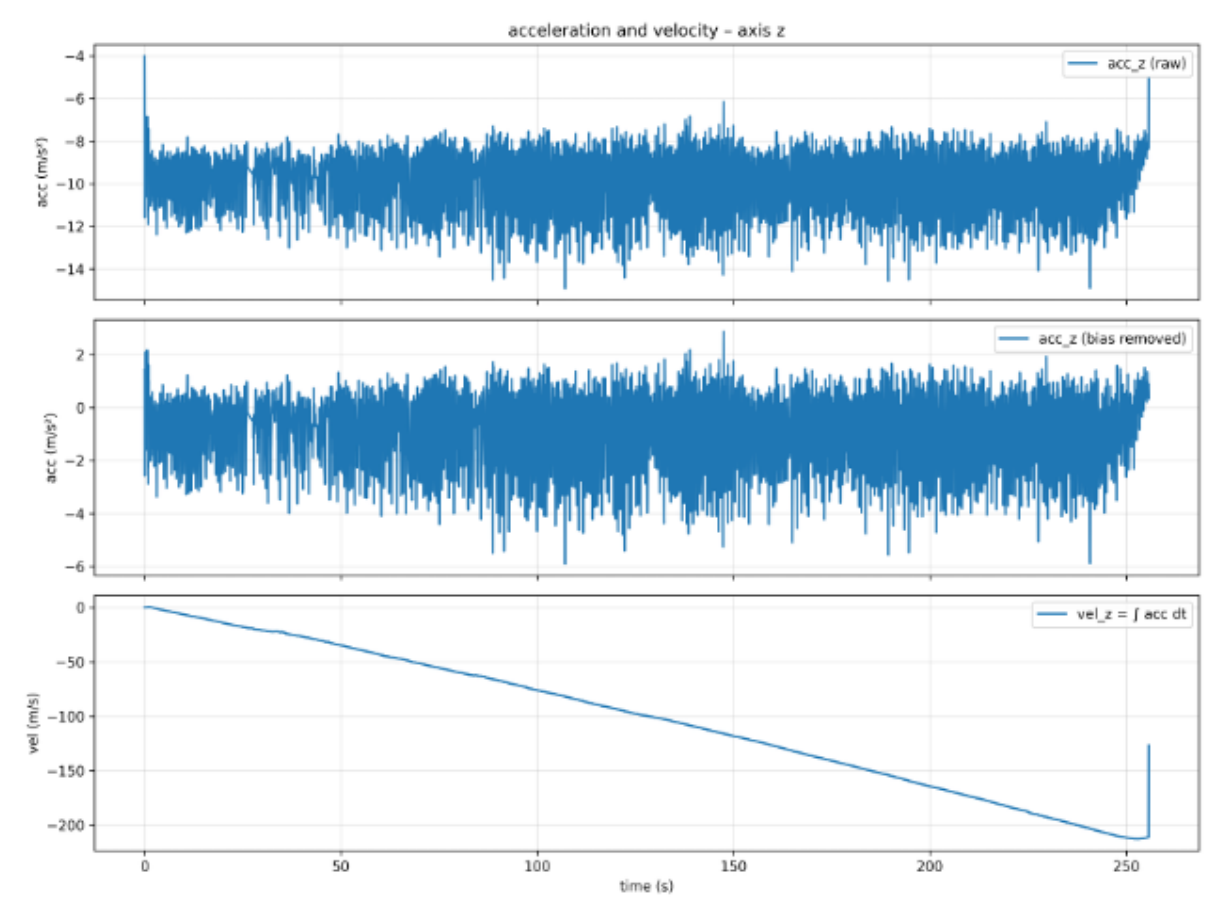

Figure 15: Acceleration and velocity in Z-axis
**Task:** Plot acceleration in Z and velocity in Z (integrate once) vs. time as two subplots (Fig. 15).